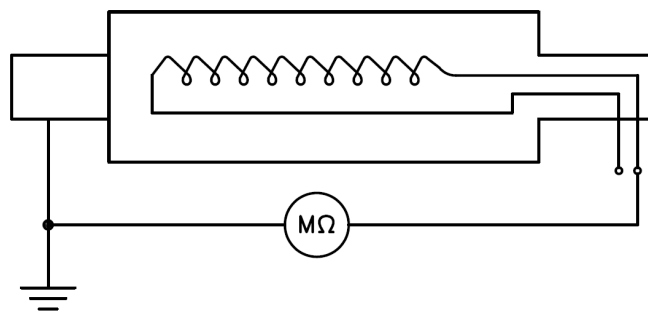

Figure 2
- Concerning the **rotor windings**, measure the insulation resistance between one terminal of the winding of the main rotor on the rectifier bridge and the rotor ground (shaft). (see **Figure 2**)